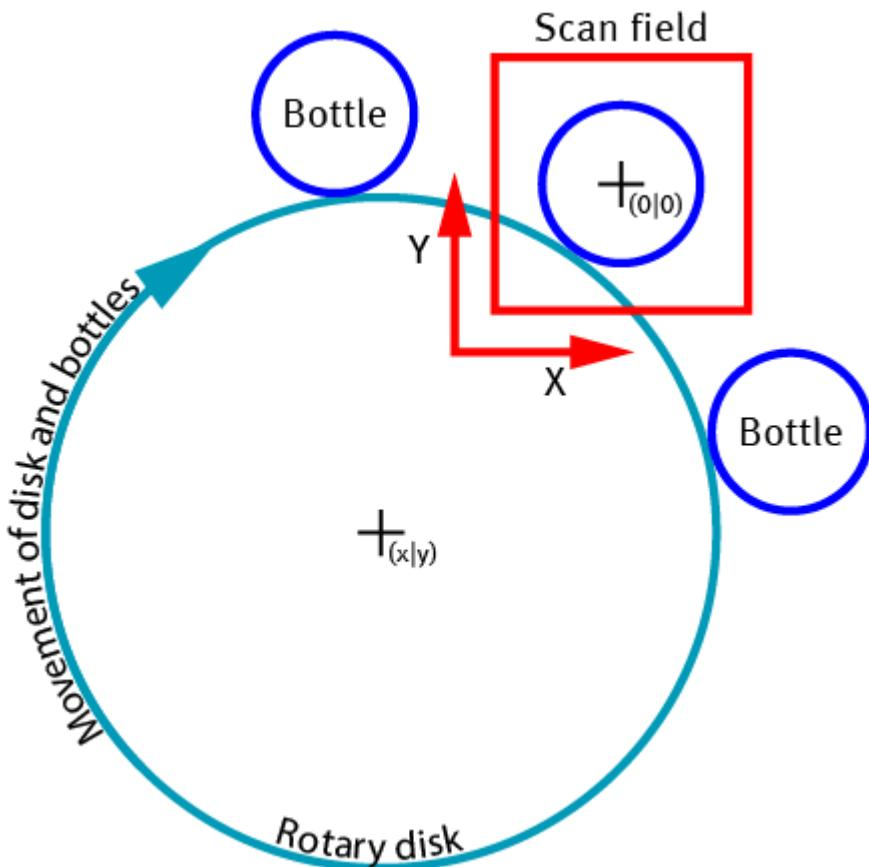

Figure 274: Setup RMOTF
Figure 274 shows a rotary disk (light blue) which is rotating clockwise. Bottles (dark blue) are rotated by this disk and thereby pass by the scan field (red) with the origin of the coordinate system (0|0). The center of the rotary disk ($x|y$) is given in respect to the origin within the scan field.
- In figure 274, we use a 100 mm scan field, from -50 mm to 50 mm, so that the origin has the coordinates (0|0).
- Setup a job that contains a dot with the coordinates of your origin (in our example (0|0), figure 274).
- c. Enable MOTF, simulation and choose "Rotation". See figure 274 to determine the correct coordinates of the Rotation Point (the point is (-x|-y) in this example).